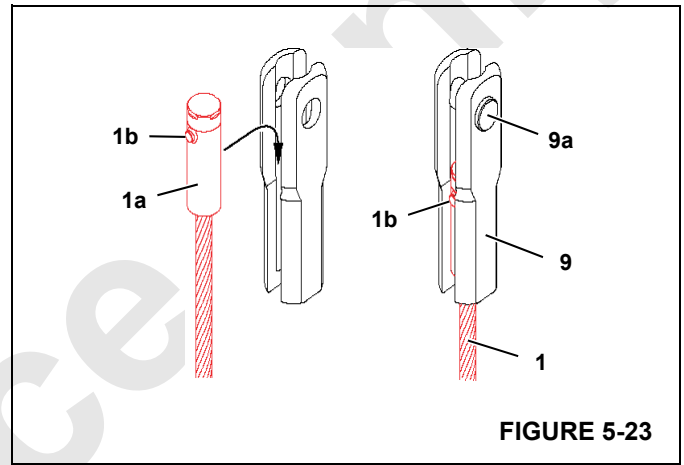

FIGURE 5-23
- Unpin snatch block (7, View C) and lifting link (10) from storage on the strut.
- Reinstall pin (7a, View B) so it is under snatch block (7).
- Route rigging line (1, View E) from rigging winch (2), as follows:
- Through hole (5, View E) in the bottom of wire rope guide (6).
- Dead end the rigging line to wire rope guide lug (6b, View A) with button socket (9, Figure 5-23).